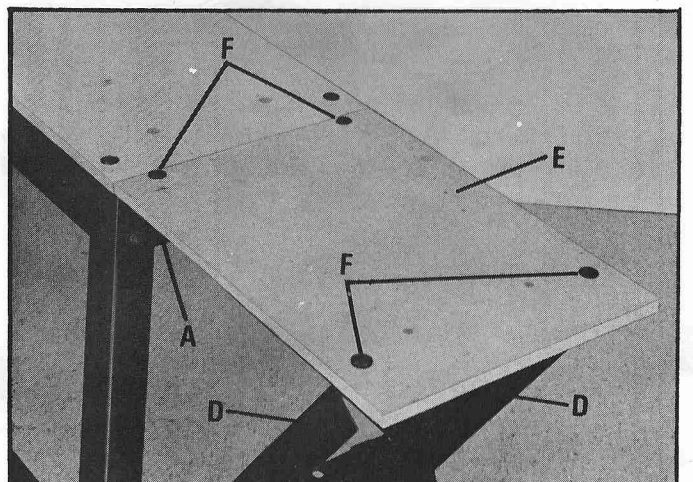

Fig. 27
3. Assemble shelf (E) Fig. 27, to brackets (A) and (D) using four 5/16-18 x 1" carriage bolts (F). Fasten with four 11/32" flat washers and four 5/16-18" hex nuts. Do not tighten at this time.
4. Use a straight edge to align shelf (E) Fig. 27, with the main shelf of the stand and tighten all hex nuts.